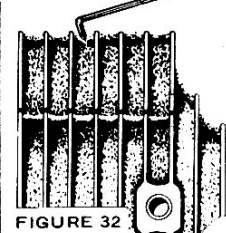

FIGURE 32
2. **CYLINDER COOLING FINS:** An air-cooled engine must have an unimpeded flow of air to maintain proper operating temperatures. At least once a week (depending on type of cutting conditions - e.g. presence of moss, etc.) remove the starter housing and clean debris from between the cylinder fins. A narrow-blade screw driver, piece of coat hanger wire or other small diameter implement may be used. See Figure 32.